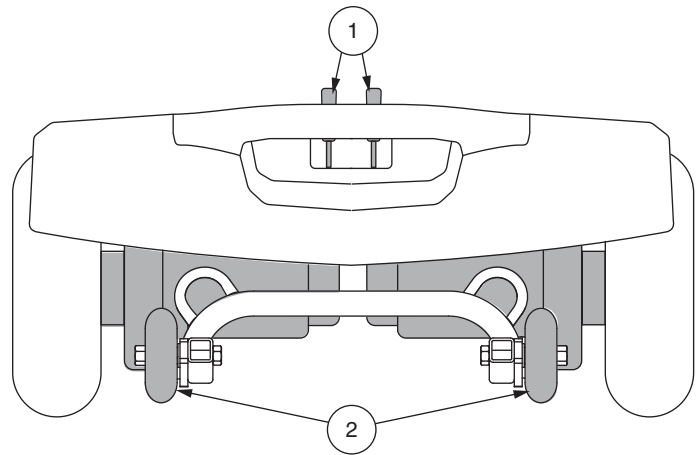

Figure 8. Rear Components - Jazzy ZTS
For your convenience, your travel scooter has a manual freewheel lever on each motor. Manual freewheel levers enable you to disable the drive system in order to maneuver the Travel Scooter manually. **See figure 8.**
1. Locate the levers on the rear section of the scooter. **See figure 8.**